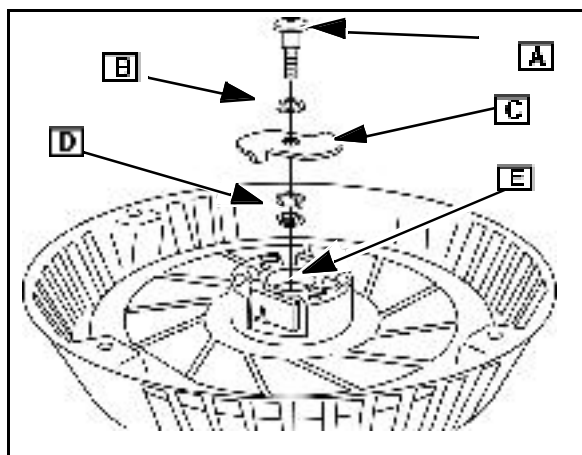

Fig. 11
7. Remove retainer screw (A), small washer (B), retainer (C), brake spring (D), and large washer (E) (Fig. 11).